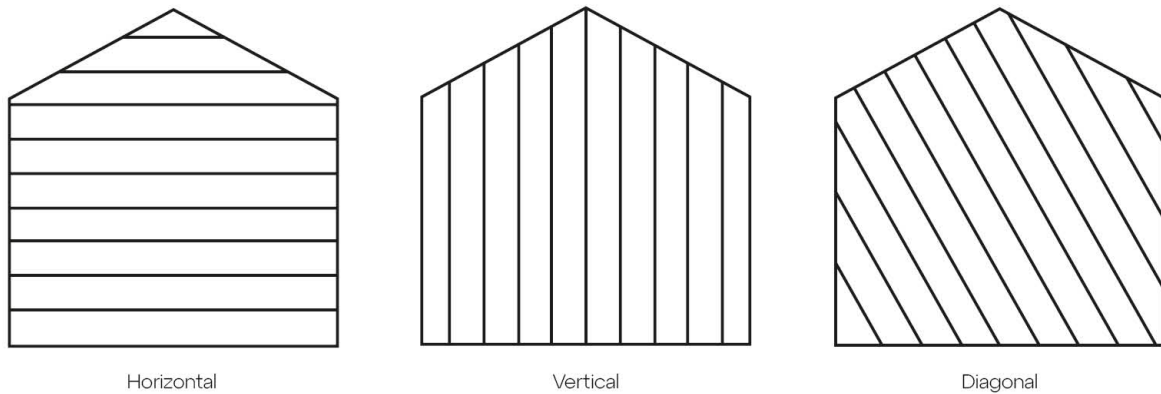

Fig. 01
- ✚ Always take into consideration that profile geometries can influence how these are suitable to be mounted/applied (see types of orientations in Fig. 01).